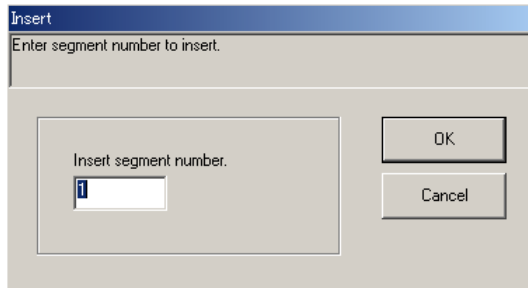

Figure 10.3.7 Insert Dialog Box
- (1) In the spreadsheet under the program pattern display, click any of the cells of the segment after which you wish to insert new segment(s).
- (2) On the menu bar, click **Edit** and then choose **Insert Segment**.
- (3) The Insert dialog box (Figure 10.3.7) appears.